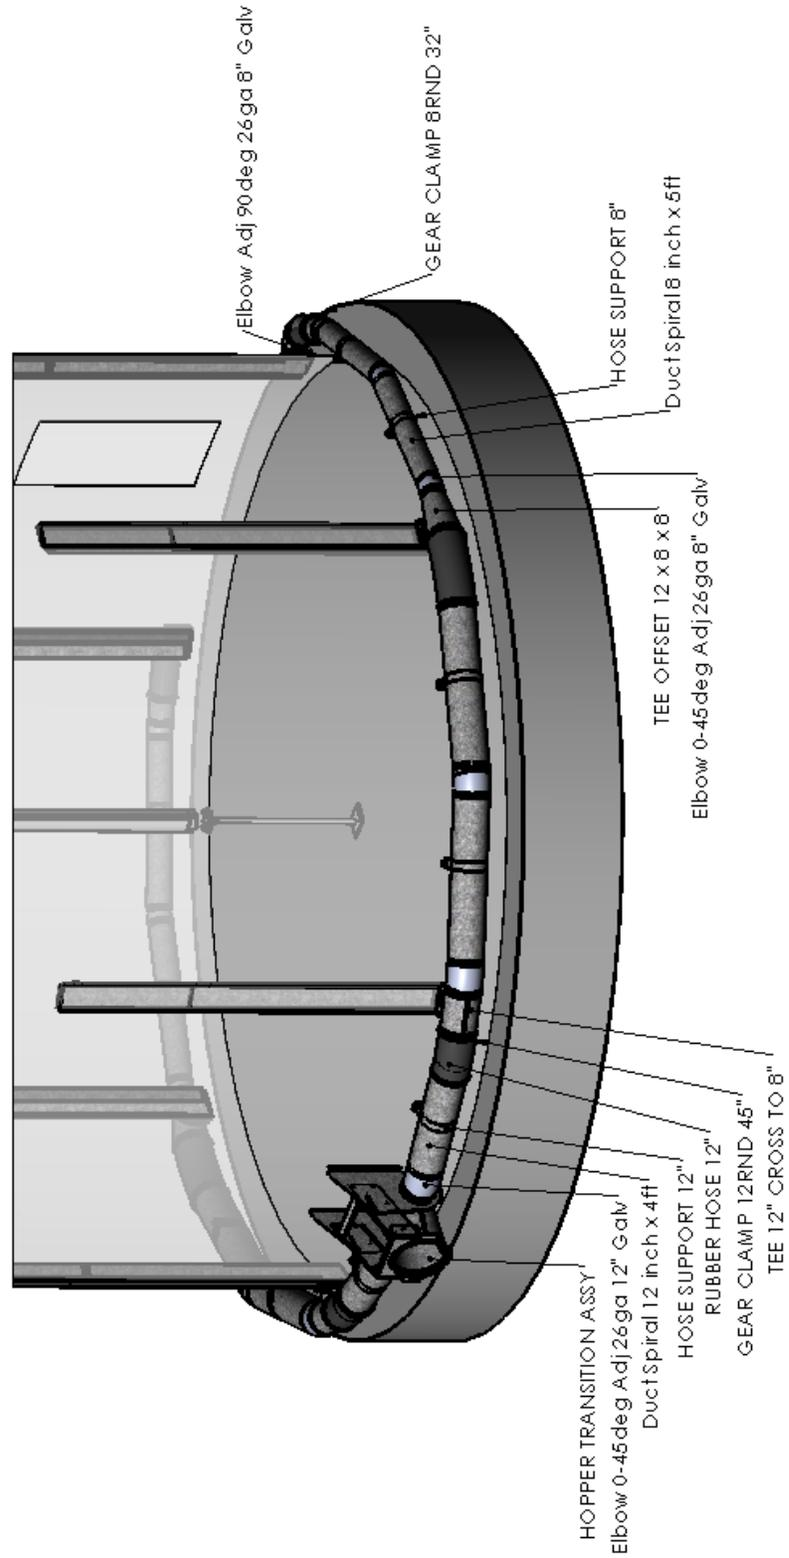

Figure 3.3.5b: Flat Bottom Outside Ducting (6 vertical columns)
**NOTE:** If there are 6 COLUMNS on the bin see Fig 3.3.5b, install TEE 12x12x8 on first inlet, TEE OFFSET 12x8x8 on second inlet and ELBOW 90deg 8" on third inlet.